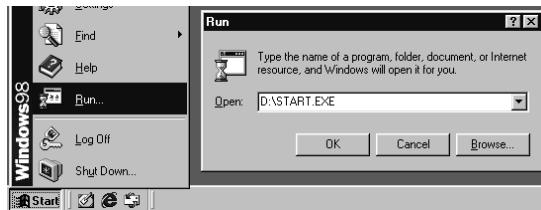

Figure 1: Starting the installation
- 3. Click on 'Start' and select 'Run' (Figure 1).